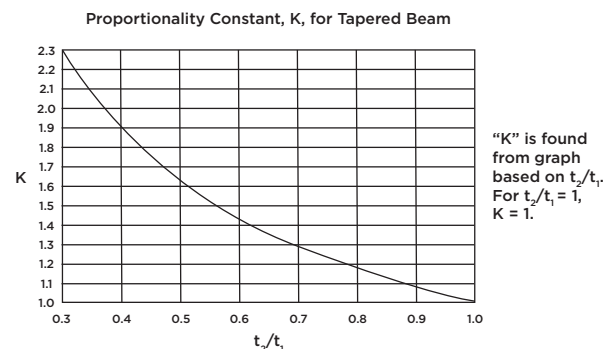
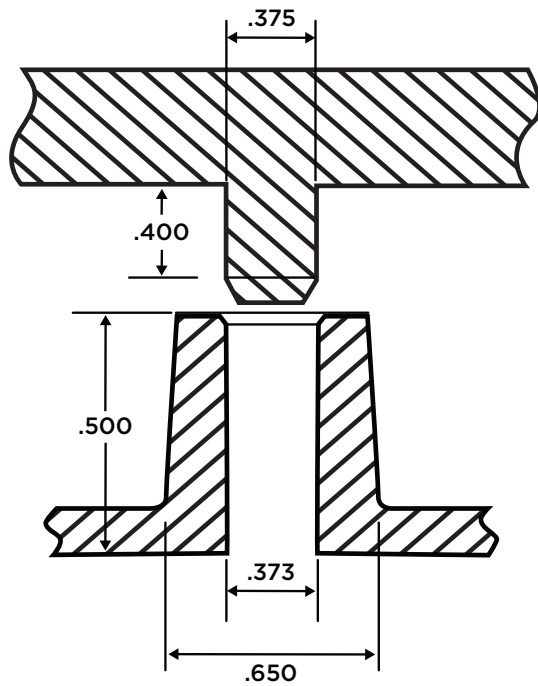

FIGURE 14 - “K” proportionality constant
FIGURE 15 - Press fit example
Press fit design is determined by the hoop stress on the boss and the pull-out force needed. Hoop stress can be determined using the following equations (figures 15–18).¹
- V = Length of Boss (figure 14) = .400
- I = Interference Fit (figure 15)
Figure 14 is an example of a press fit problem. The equations listed in figures 15–18 will help determine the pull-out force on the press fit. The pull-out force will determine how difficult it will be to pull the two pieces apart.